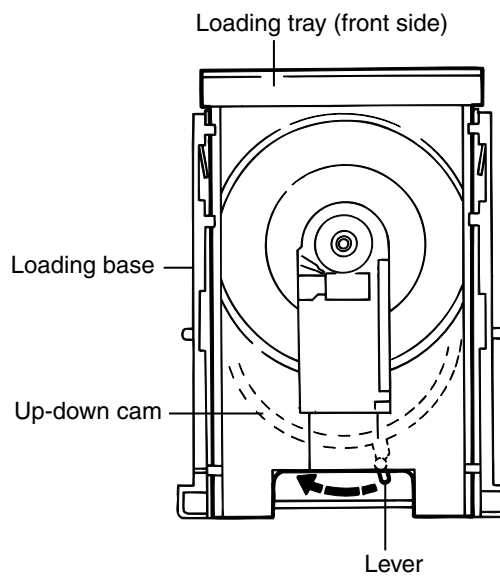

Fig.2
1. Turn the up-down cam lever clockwise (in the direction of the arrow in Fig.2) to lower the position of the mechanism.